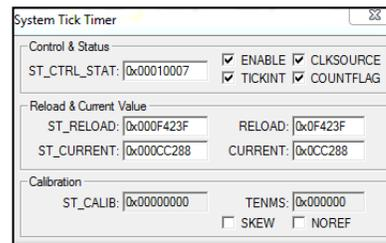

Fig. 11: System Tick Timer Window
2. To open the System Tick Timer window, in the main menu select Peripherals >> Core Peripherals >> System Tick Timer. A window will appear resembling Fig. 11.